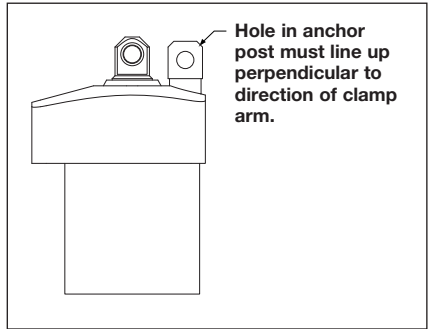

Figure 2
To install the linkage components, line up the two (2) links with the hole in the anchor lug. Insert one (1) of the long pivot pins through the links and the anchor lug. Secure the pivot pin in place using two (2) of the supplied E-clips (See Figures 2 and 3).